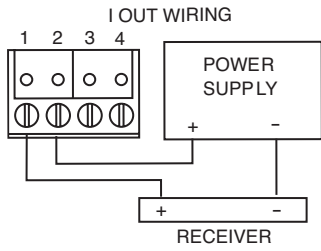
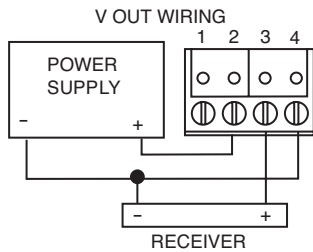

Figure 1
Figure 2
6. Proceed with wiring according to Figures 1 and 2.
Use maximum 18 AWG wire for wiring terminals. Refer to Figure 1 or Figure 2 for wiring information. The terminal block is removable for ease of installation.